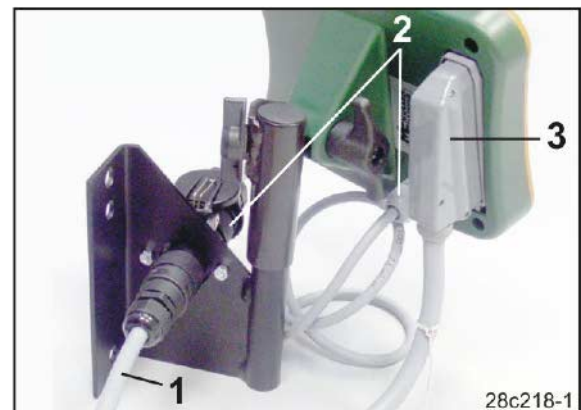

Fig. 72
2. Insert the power cable (Fig. 72/1) into the console and the 12V tractor socket.
3. Connect the console and the terminal with the power cable (Fig. 72/2).
4. Route the cable with the implement plug (Fig. 72/3) into the tractor cab and insert it into the implement plug in the terminal.